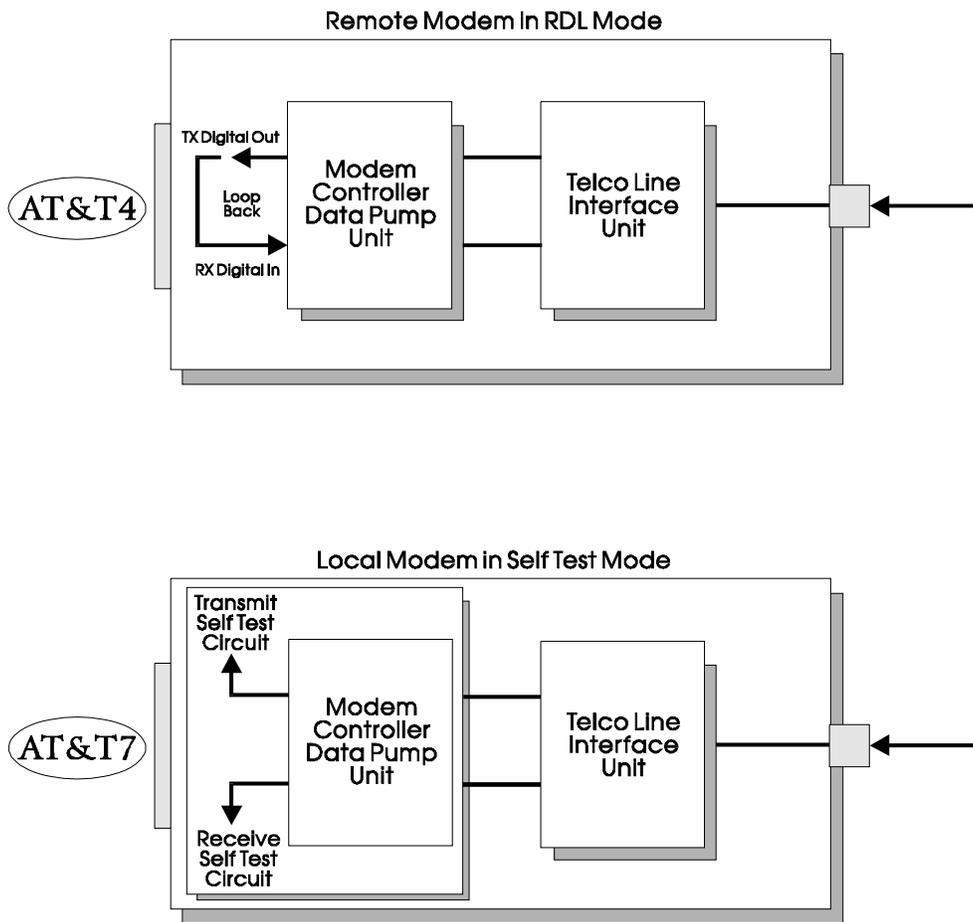

Figure 4-4. Remote Digital Loopback with Local Self Test
- Remote Digital Loopback with Local Self Test (see *Figure 4-4*)